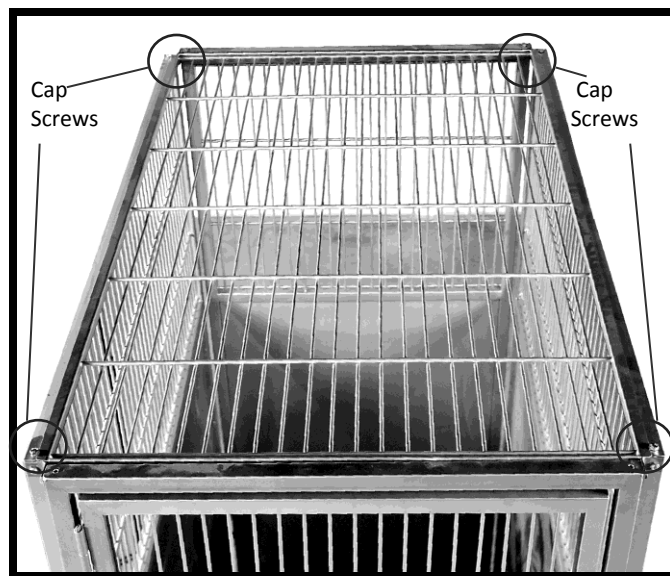

Figure 35: Installing the Top Panel
1. With a 1/2 in. wrench, remove the four cap screws from the tops of the end and partition panels (Figure 35). There are no cap screws in the swinging gate and back panel.